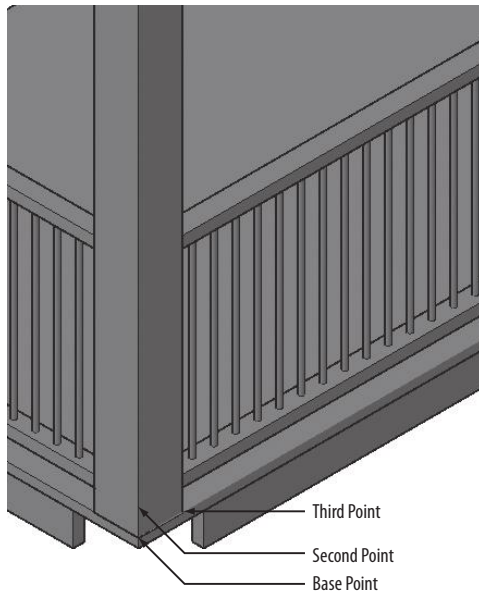

FIGURE 16.74: Defining the destination plane within the 3D model
- Without exiting the 3DALIGN command, zoom in to the left deck column on the east side of your cabin, as shown in Figure 16.74.
- To define the destination plane, select the base, second, and third points, as shown in Figure 16.74.